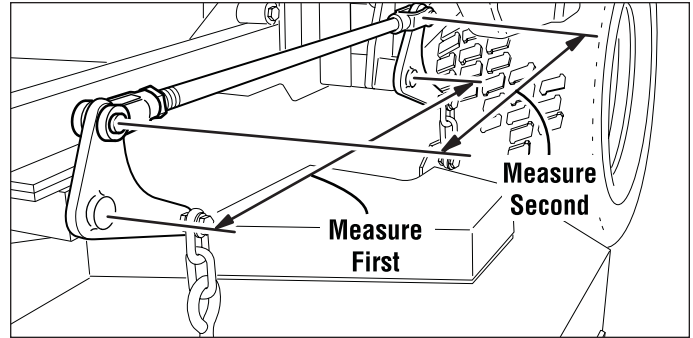

Figure 8. Check Lift Rod Timing
2. To check the lift rod timing, measure and record the distance between the lift pivots and the rod pivots. Repeat for the other side of the machine. See Figure 8.